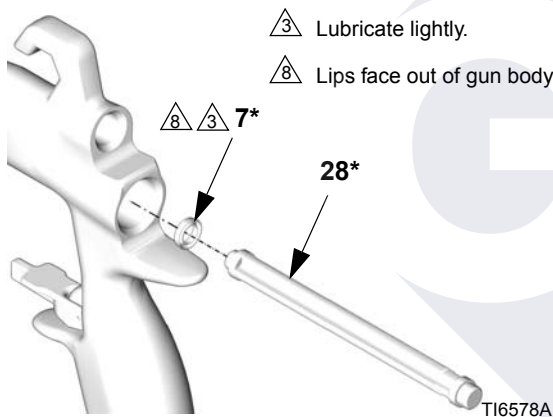

FIG. 41
3. Place the new u-cup (7*) on the seal installation tool (28*), with the u-cup lips facing the tool as shown in FIG. 41. Push the u-cup into the back of the gun until you feel a definite snap.